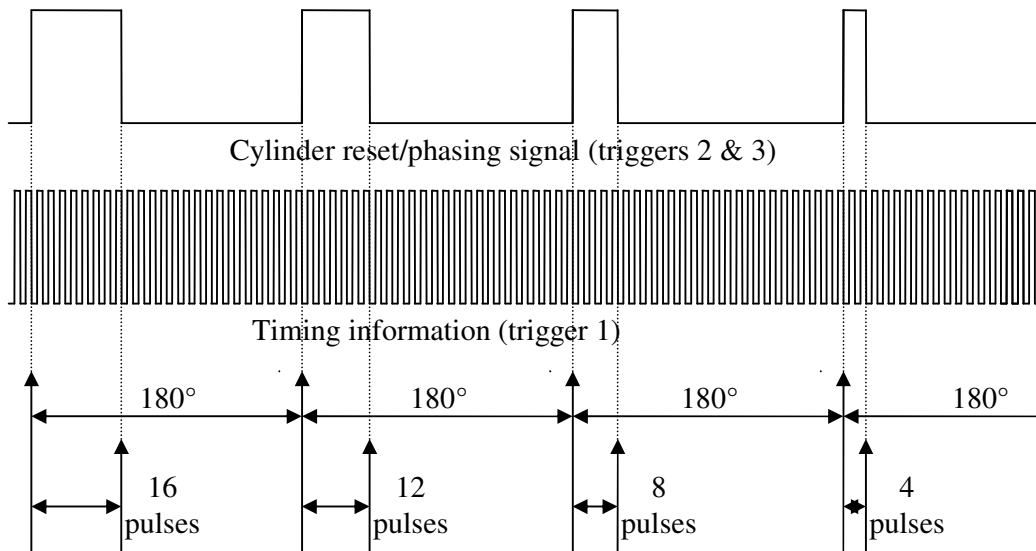

Figure 13: Stylised Nissan cam angle sensor waveform
Because the ECU can accept a channel specifically to fire the ignition during cranking, one can connect a timing light to the ignition output from the coil, and select each input (which has been connected, see Figure 13) in turn, crank the engine and determine the angle at which the pulse occurs. For each connected channel in turn:
3. Deselect all the boxes in this channel, and select "Ign Crank" (see Figure 13).